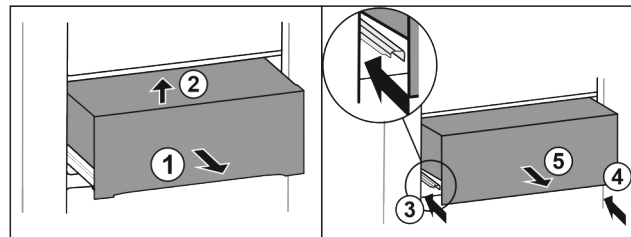

Fig. 24
- ▶ Pull out the drawer halfway Fig. 24 (1).
- ▶ Lift at the front Fig. 24 (2).
- ▶ Slide in left rail Fig. 24 (3).
- ▶ Slide in right rail Fig. 24 (4).
- ▶ Remove the drawer to the front Fig. 24 (5).